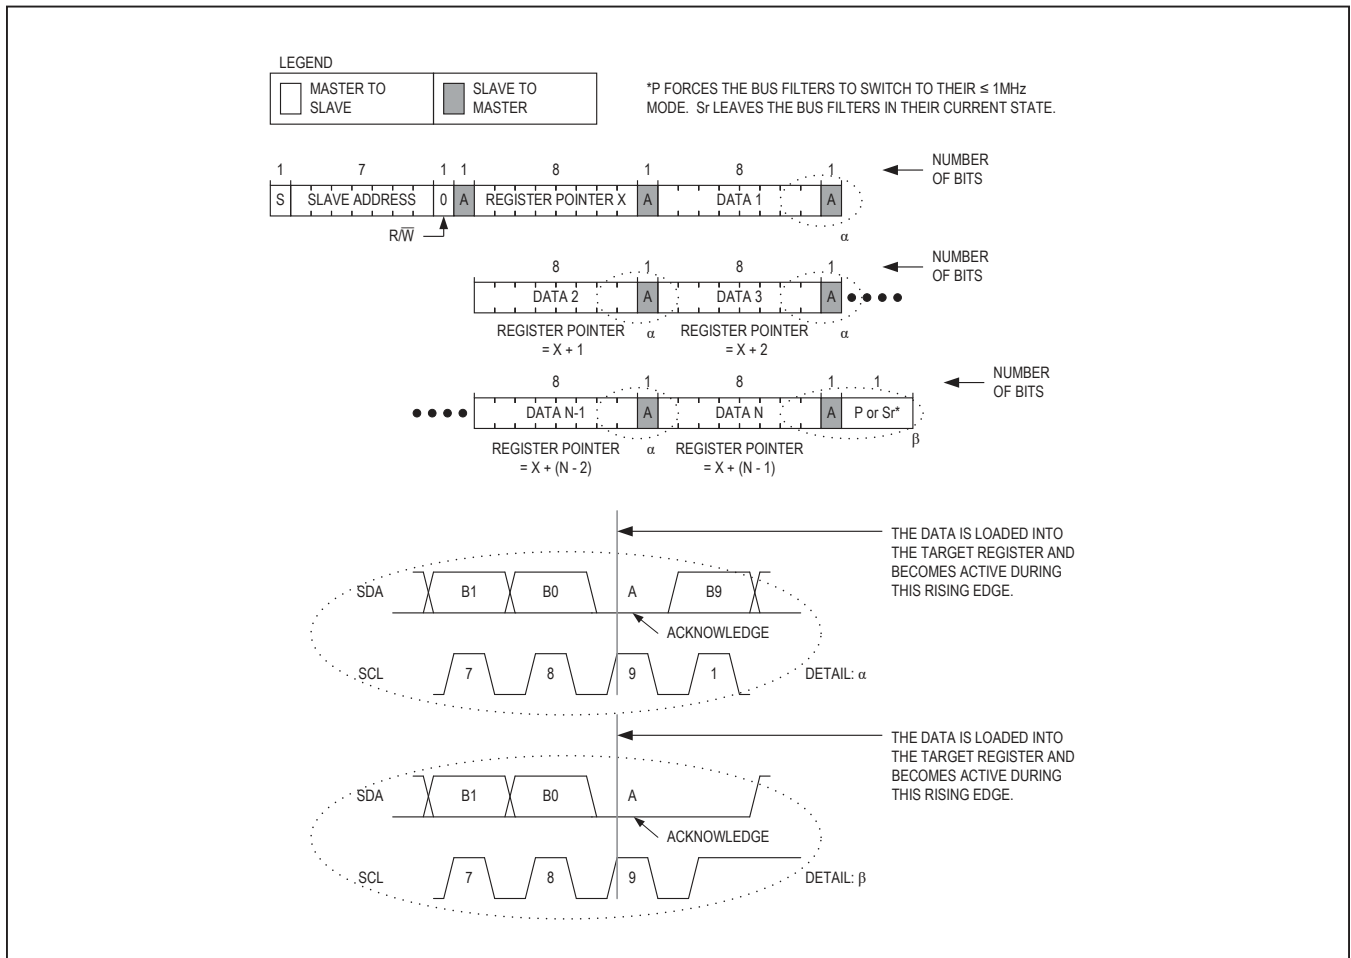

Figure 15. Writing to Sequential Registers
Figure 15 shows the protocol for writing to sequential registers. This protocol is similar to the "Write Byte" protocol, except the master continues to write after the slave device receives the first byte of data. When the master is done writing, it issues a STOP condition (P) or a REPEATED START condition (Sr).